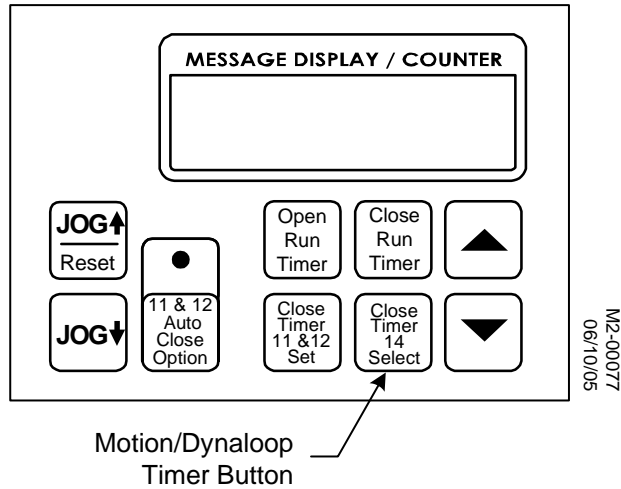

Figure 3-17: Auto Close Timer Setting
1. Press the **CLOSE TIMER 14** button on the DYNALOGIX controller. The current countdown time displays in the LCD. See Figure 3-17.